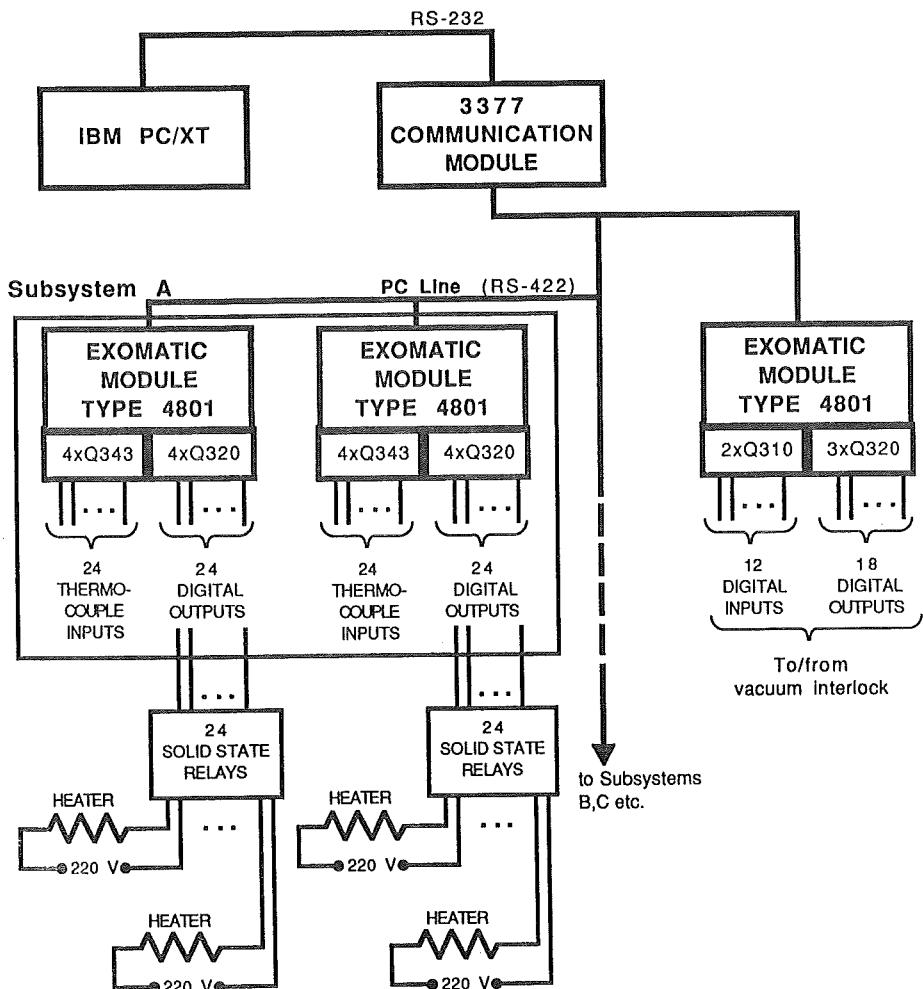

Figure 5. Block diagram of the bakeout control system.
2.6 Baking. All the vacuum system is, with minor exceptions such as the above mentioned SPS flanges, bakeable to 300 °C. The bakeout heaters are either company-fabricated jackets or for straight tubes and in the magnet gaps heating tape plus heat-insulating material. In the bending-magnet gaps there is only room for 10 mm heat insulation, otherwise the thickness is 25 mm. Special metal-collar heaters have been manufactured for all Conflat and SPS flanges. Nonmagnetic thermoelements of type E (Chromel/Constantan) are used. The power is controlled by an Exomatic⁶ microprocessor control system, described in more detail in ref 7. We have three subsystems, operable separately or together, having 48, 24 and 24 channels, respectively. There are thermoelement inputs and power-control outputs for solid-state relays (triacs). An IBM PC/XT or AT is used for operation and temperature display. A block diagram of the Exomatic hardware with communication lines and connected heaters is given in figure 5. It is also shown that the bakeout-control and vacuum-interlock systems are connected with each other by means of digital inputs and outputs in order to exchange relevant information.